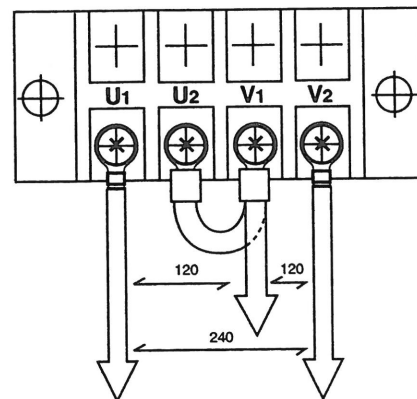

Figure 30: Output Terminal Board, 120/240 Volt Output
- Connect U2 and V1 on the output board (Figure 30). Connect output leads to U2 and V2 and neutral lead to V1 (or U2). 240 volt output is available from the leads connected to U1 and V2. The 120 volt load should be divided as equally as possible between two 120 volt circuits.